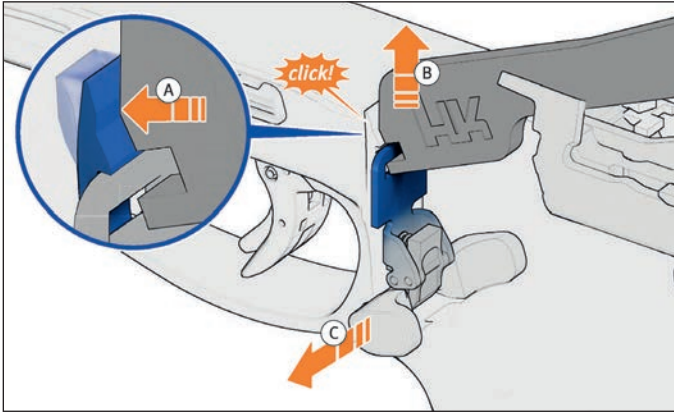

Figure 46 – Remove push button
3. Push the latching clip in the pistol grip frame forward with disassembly tool (Figure 46).